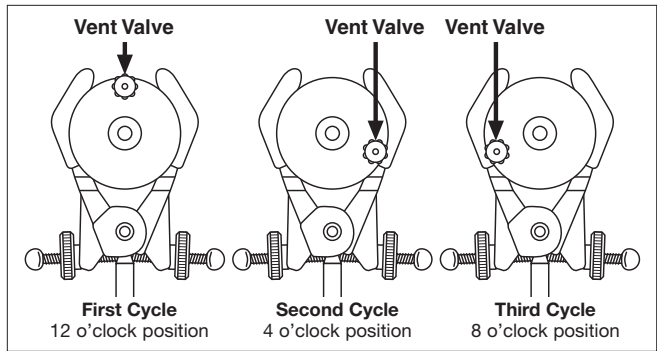

Figure 4: Orientation of sampling capsules during elution
- 3.7 Securely clamp the capsule on the Laboratory Shaker so the vent valve is facing toward you. Make sure the vent valve is in the 12 o'clock position (see Figure 4).
- 3.11 Again, securely clamp the capsule on the Laboratory Shaker so the vent valve is facing toward you. This time make sure the vent valve is in the 4 o'clock position (see Figure 4).
- 3.14 Rotate the capsule until the vent valve is in the 8 o'clock position (See Figure 4), secure the capsule in place, and agitate at 600 rpm for 5 minutes.